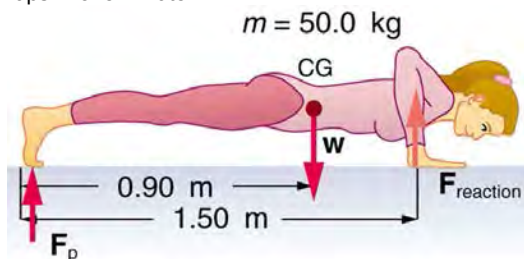

Figure 9.45 A woman doing pushups.
37. (a) What force should the woman in **Figure 9.45** exert on the floor with each hand to do a push-up? Assume that she moves up at a constant speed. (b) The triceps muscle at the back of her upper arm has an effective lever arm of 1.75 cm, and she exerts force on the floor at a horizontal distance of 20.0 cm from the elbow joint. Calculate the magnitude of the force in each triceps muscle, and compare it to her weight. (c)